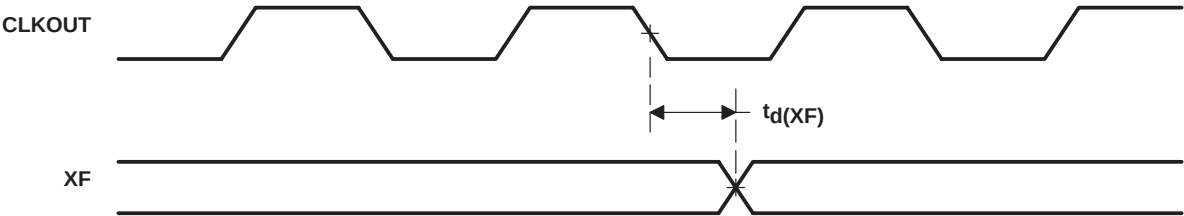
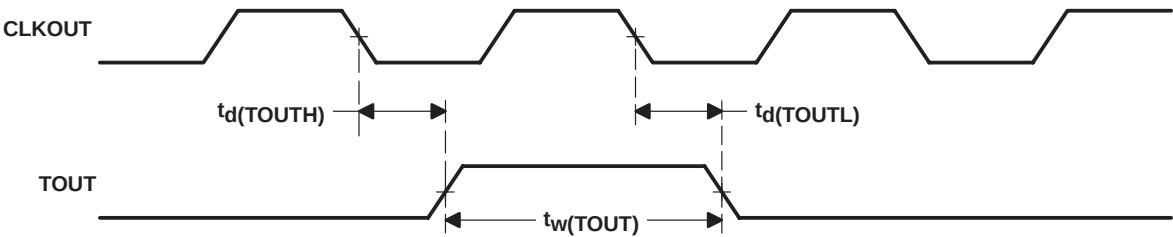

Figure 19. External Flag (XF) Timing
Figure 20. TOUT Timing
switching characteristics over recommended operating conditions for external flag (XF) and TOUT [ $H = 0.5\ t_{c(CO)}$ ] (see Figure 19 and Figure 20)